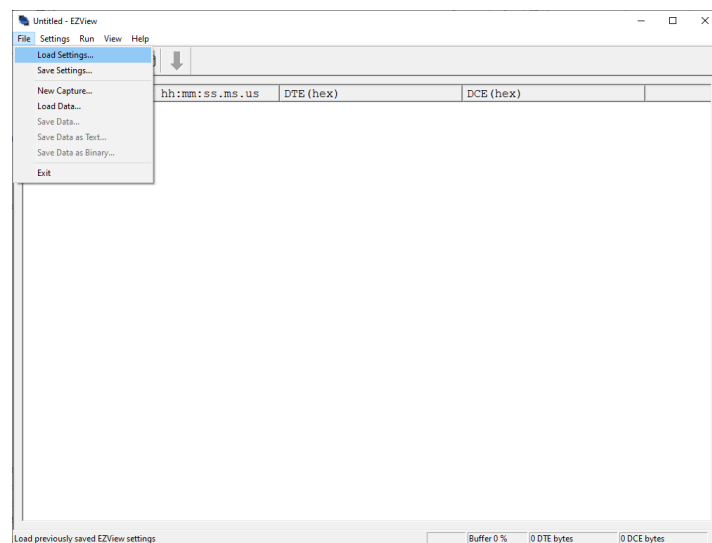
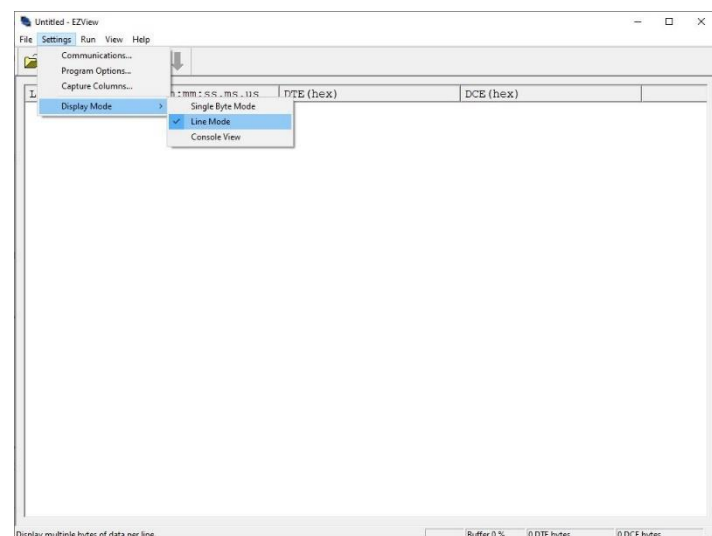

Figure 2: EZ-View Loading Settings
Figure 3: Display Mode
3. Start the EZ-View application and select *File->Load Settings* from the menu as shown in Figure 2. Browse to file *Head Amp.evs* supplied on the USB stick. This loads the settings for capturing head amp data. Then select *Settings->Display Mode->Line Mode* from the menu as shown in Figure 3.